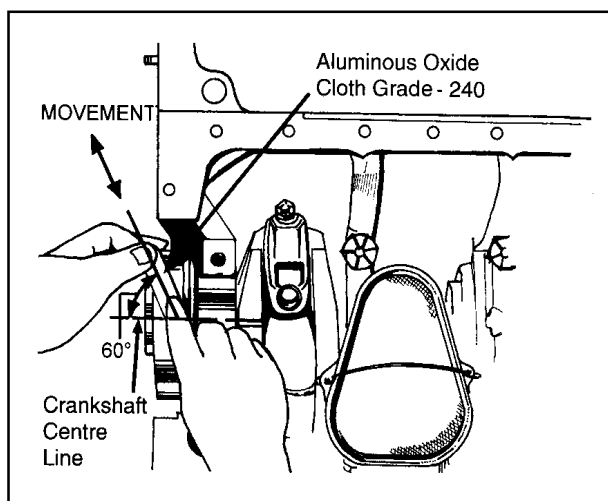

Figure 37
8. Scratches & corrosion on the crankshaft rear oil seal journal can be cleaned from underneath the engine, or with the engine inverted Figure 37.